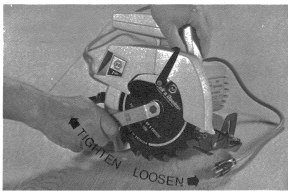

FIGURE 2
— b. ON SAWS WITH BLADE ATTACHED. Using the retracting lever "C", retract the lower blade guard and place the Saw on a piece of scrap lumber as shown in Figure 2. Press down on the Saw so that the blade teeth dig slightly into the lumber and prevent the blade from turning. Then, with the blade wrench provided, turn the clamping screw counter-clockwise and remove the screw and outer clamp washer. Disengage the blade teeth from the lumber, and with the lower blade guard still retracted, lift off the blade.
3. To attach the blade, retract the lower blade guard and slip the blade over the saw spindle "D" with printed side of blade out (teeth at bottom of blade pointing forward). Place clamp washer "B" on spindle so that "flats" in washer fit "flats" on spindle. Thread on clamping screw firmly by hand to hold washer in position. Place Saw on piece of scrap lumber as shown in Figure 2 and press down on the Saw so that blade teeth dig slightly into wood and prevent blade from turning. Tighten clamping screw (clockwise) firmly with the blade wrench.